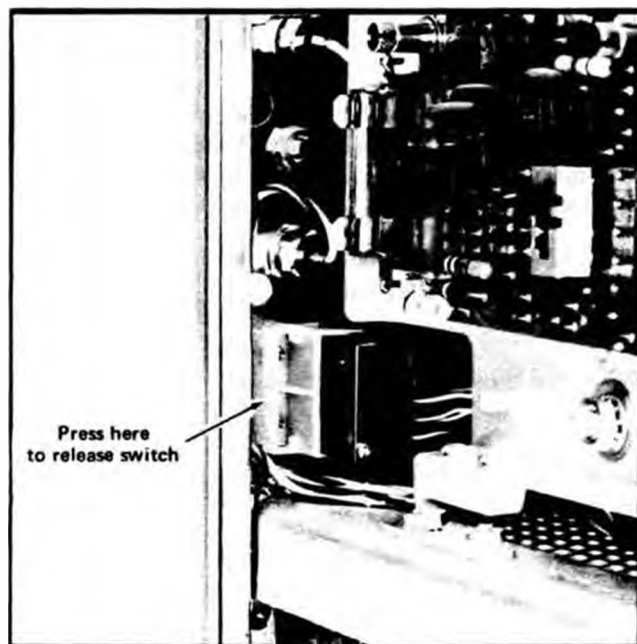

Fig. 4-7. Detailed view of trigger source switch holder (B TRIGGER SOURCE switch shown).
2. Press the center of the release bar of the switch holder, then press on the front-panel pushbuttons to remove the switch from the holder. Figure 4-7 shows a detailed view of the switch holder.